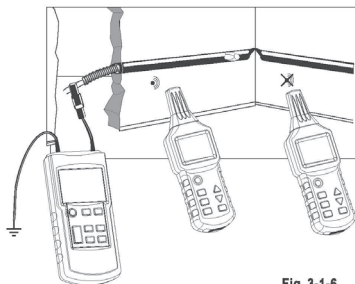

Fig. 3-1-6
- * The emitter is connected to a metal helical tube (metal tube or flexible conductor) and an auxiliary ground, as shown in Fig. 3-1-6.